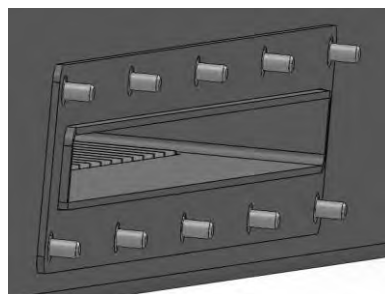

Figure 24A: Correct
1. Evenly push the filter back into the opening in the side of the conveyor until the flange is flush against the conveyor casing (Figure 24A). Gaps between the flange and conveyor indicate that the filter is not properly seated (Figure 24B). An improperly fastened filter cell may interfere with the conveyor belt and cause jamming.